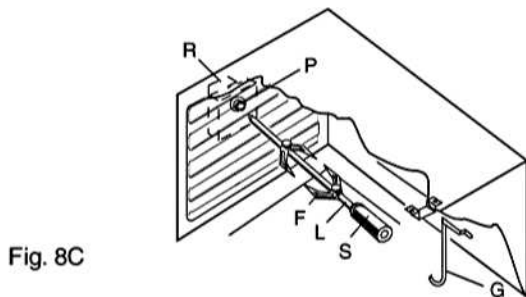

Fig. 8C
- Put the food in spit L (see fig. 8C), paying attention to block it within the two forks F and to balance it, in order to avoid any unnecessary effort in motor R.
- To remove the spit, operate in the opposite direction using knob S and protecting glove in isolating wool (fig.8C).